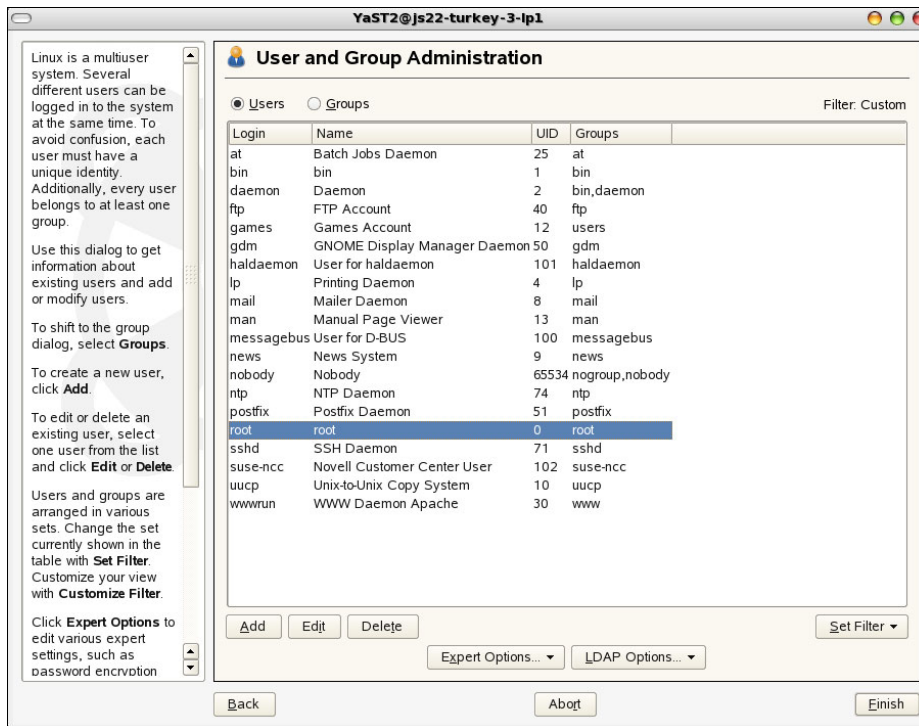

Figure B-8 Configure the root user
- iii. Select **Users**, high-light **root** and its row, and change the Filter to **System Users** by clicking the **Set Filter** drop-down button as shown in Figure B-8 on page 532.